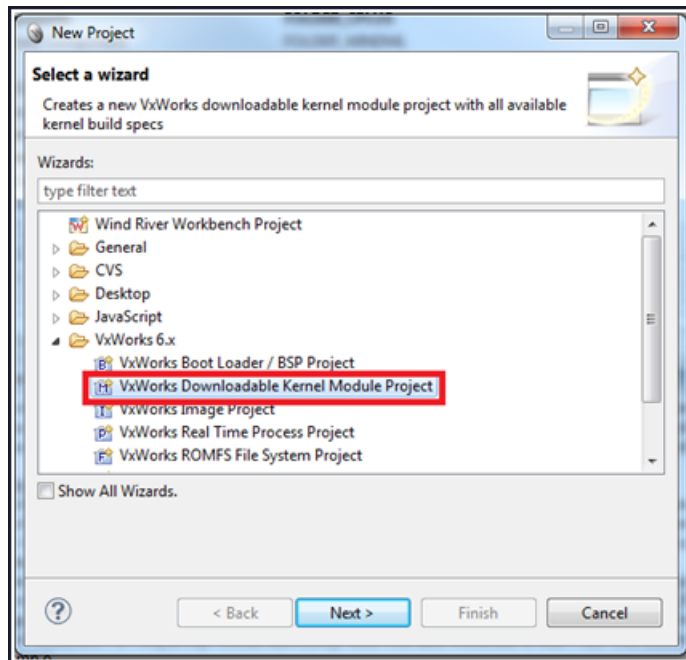

Figure 13: New Project Wizard
1. Select **File > New > Project > VxWorks Downloadable Kernel Module Project**, as shown in Figure 13.